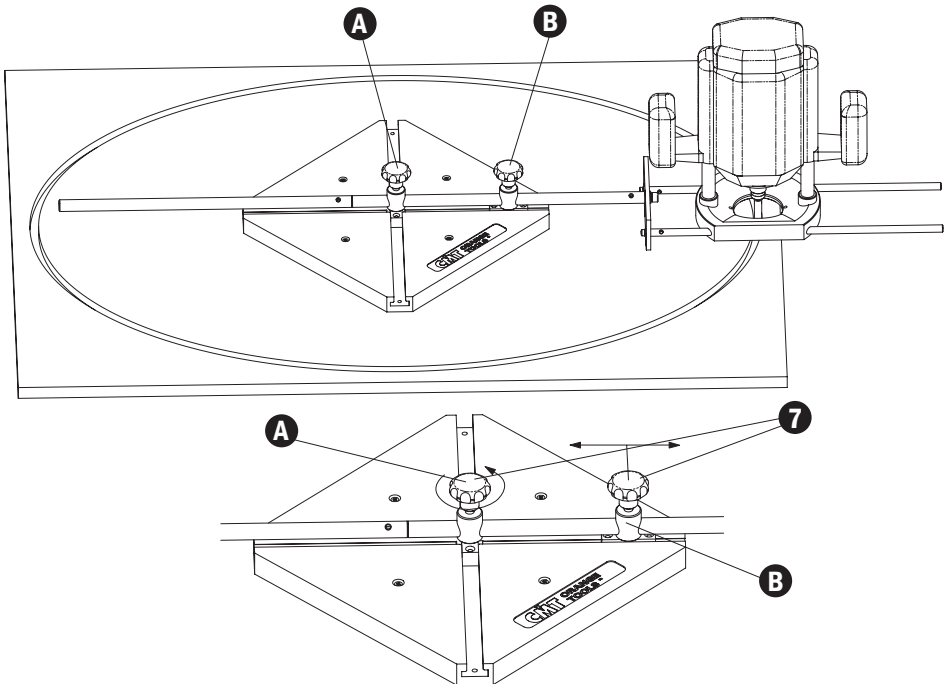

Fig. 6
(Fig. 6) Insert the complete slider (A) into the centre of the slot of the cross frame and fit the complete slider (B) along the major semi-axis.